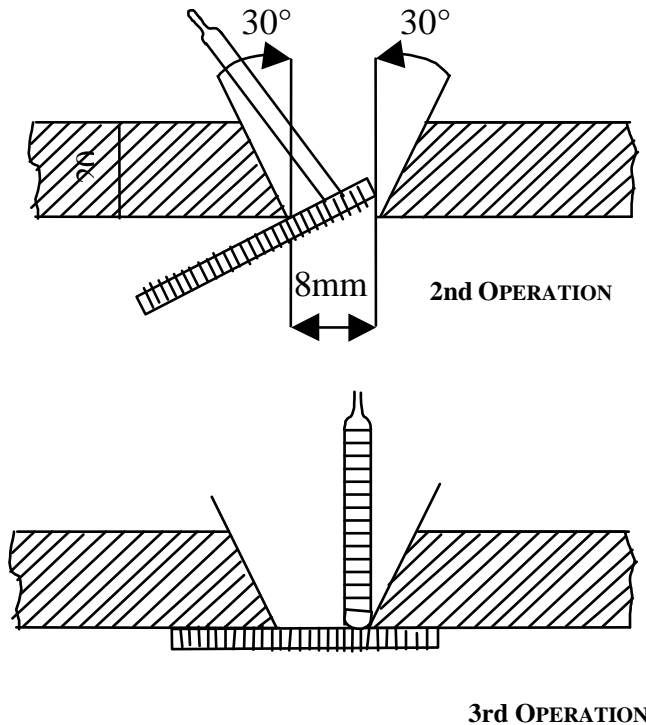

FIGURE 3.3 PROCEDURE FOR FITTING OF BACKING STRIP
5. If there is no access from back side to fix the backing plate, an electrode shall be welded on the surface of the back plate and then it shall be inserted vertically through the root gap of the V groove from top and then the electrode shall be pulled upwards and the backing plate is to be held in position by tack welding with the affected bogie frame as shown in Figure 3.3.